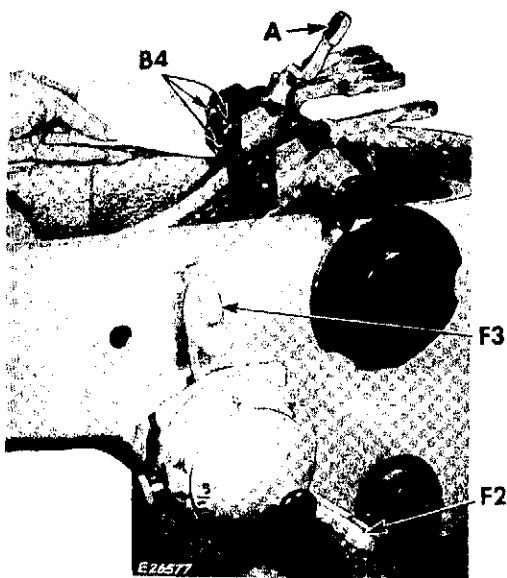

Fig. 253
11. Set bight control lever **F2** at maximum bight, needle position lever **F3** in central position and raise selector lever **A**, as illustrated in **Fig. 253**.
12. Turn hand wheel until cam follower reaches its lowest point. With a single thickness of newspaper check the clearance between selector retainer and top of arm as shown in **Fig. 253**. In this position the paper should slide freely.